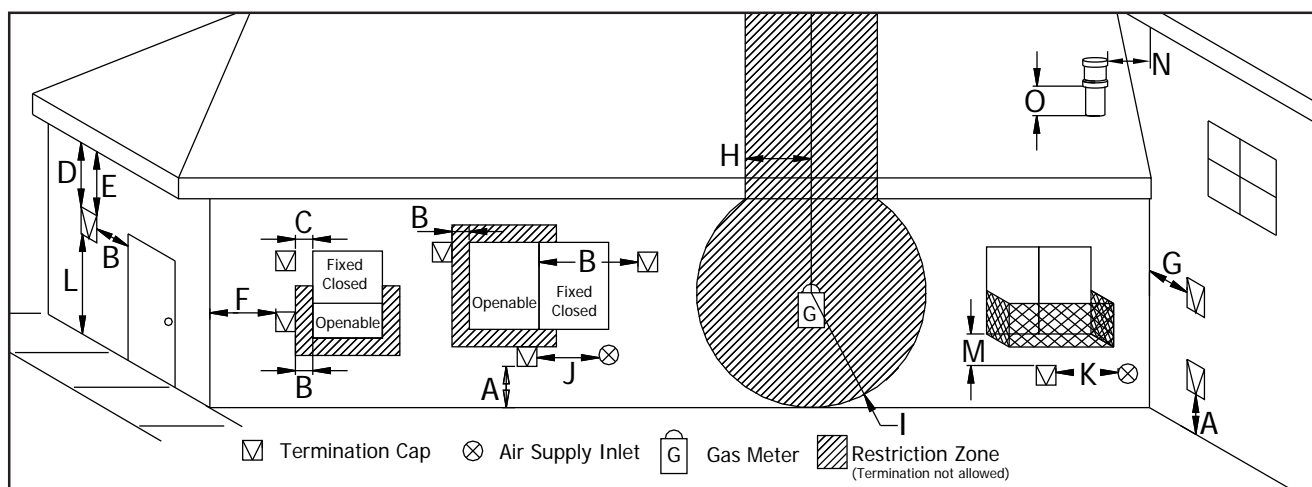
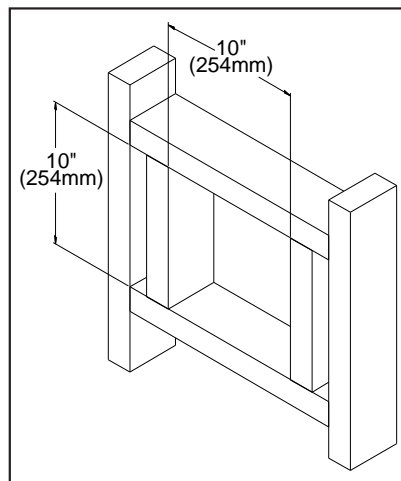

Figure 26. Vent Termination Restrictions, refer to Table 3.
Figure 30: Wall Framing Hole for Horizontal Installation.
Table 3: Vent termination clearances, refer to Figure 26.
3. With the pipe attached to the stove in the correct location, mark the wall for a 10" (25.4cm) x 10" (25.4 cm) square hole (refer to Figure 30). The center of the square hole should match the center line of the horizontal pipe. Cut and frame the 10" (25.4cm) x 10" (25.4cm) hole in the exterior wall where the vent will be terminated. Refer to Figure 26 and table 3 for allowable locations. If the wall being penetrated is constructed of non-combustible material i.e. masonry or concrete, a 7" (17.8cm) hole is acceptable.